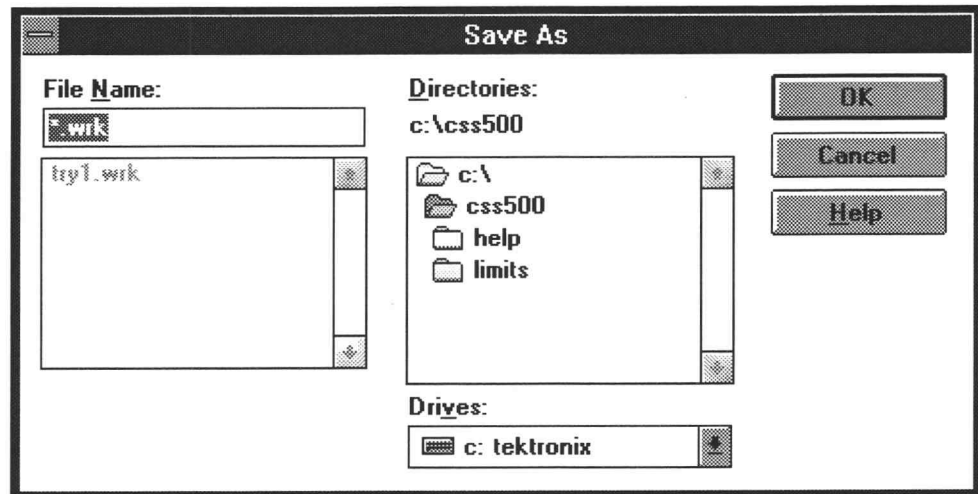

Figure 4-11. The Save As dialog box.
9. From the File menu, choose Save As. The Save As dialog box appears, as shown in Figure 4-11.